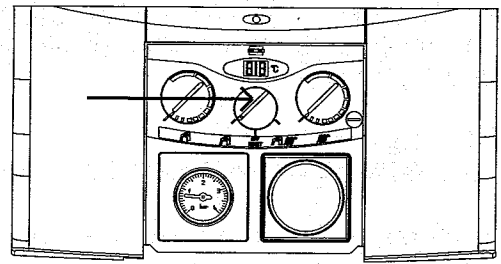

Fig. 2
2.1 With the boiler mode selector switch (6) turned to  (Fig. 2) the main burner will ignite electronically whenever water is drawn from the tap.